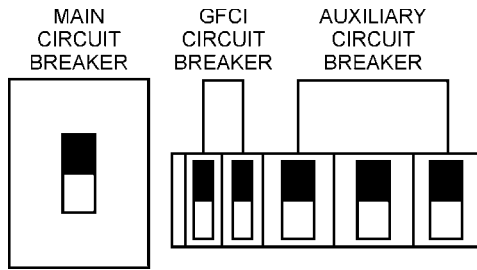

Figure 51. Main, Aux. and GFCI Circuit Breakers (ON)
- Place the **main, GFCI, and aux.** circuit breakers in the **ON** position (Figure 51).